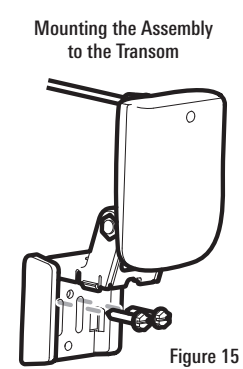

Figure 15
5. Align the mounting bracket transducer assembly with the drilled holes in the transom. With a 5/16" socket driver, mount the assembly to the transom using the two #10 - 1" long screws provided (Figure 15). **Hand-tighten only!**